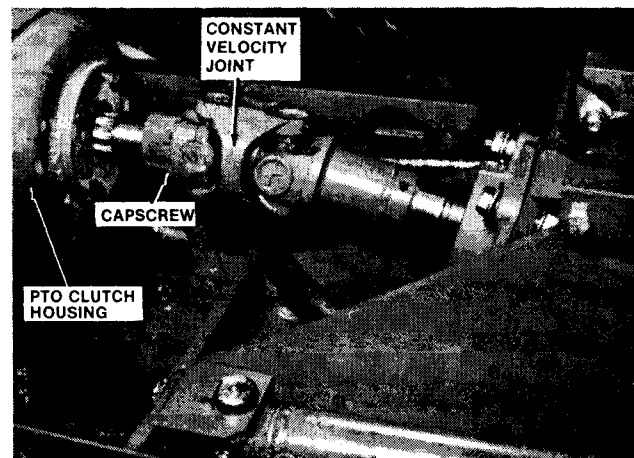

FIGURE 2-10: PTO Driveline Removal
30. Remove four capscrews from constant velocity joint on PTO driveline (Figure 2-10).